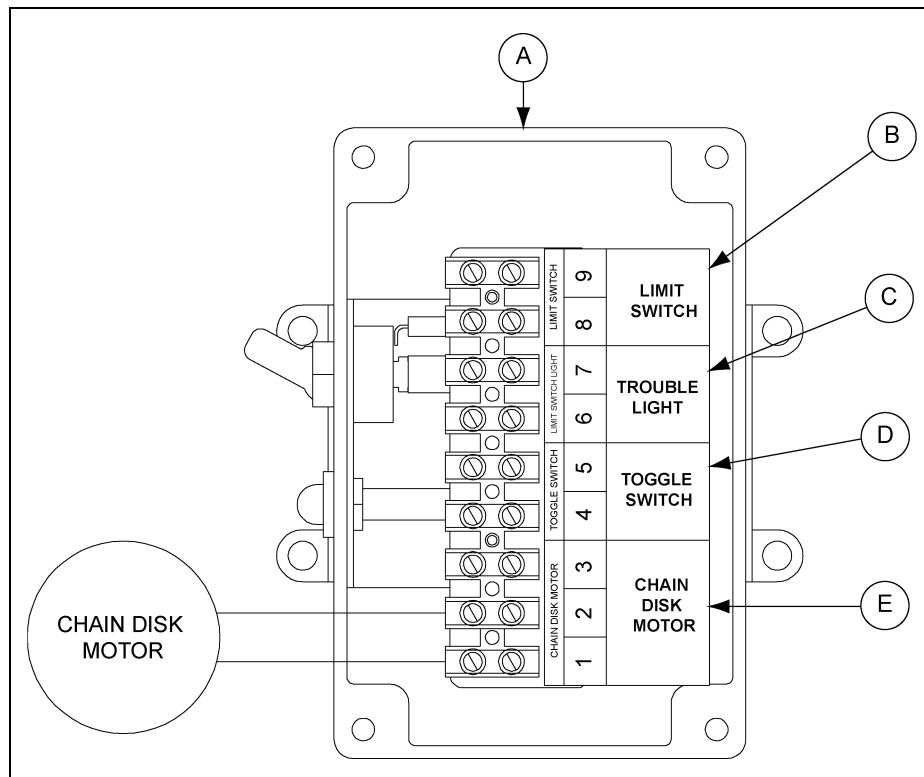

Figure 10A Chain Disk Junction Box
3. Use proper size wire according to the national electrical codes to wire all systems. *(See Figure 10A.)*